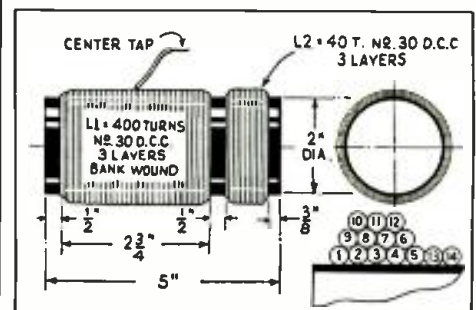

Fig. 2
- (2) Inverted-L with unshielded lead-in (Fig 2).